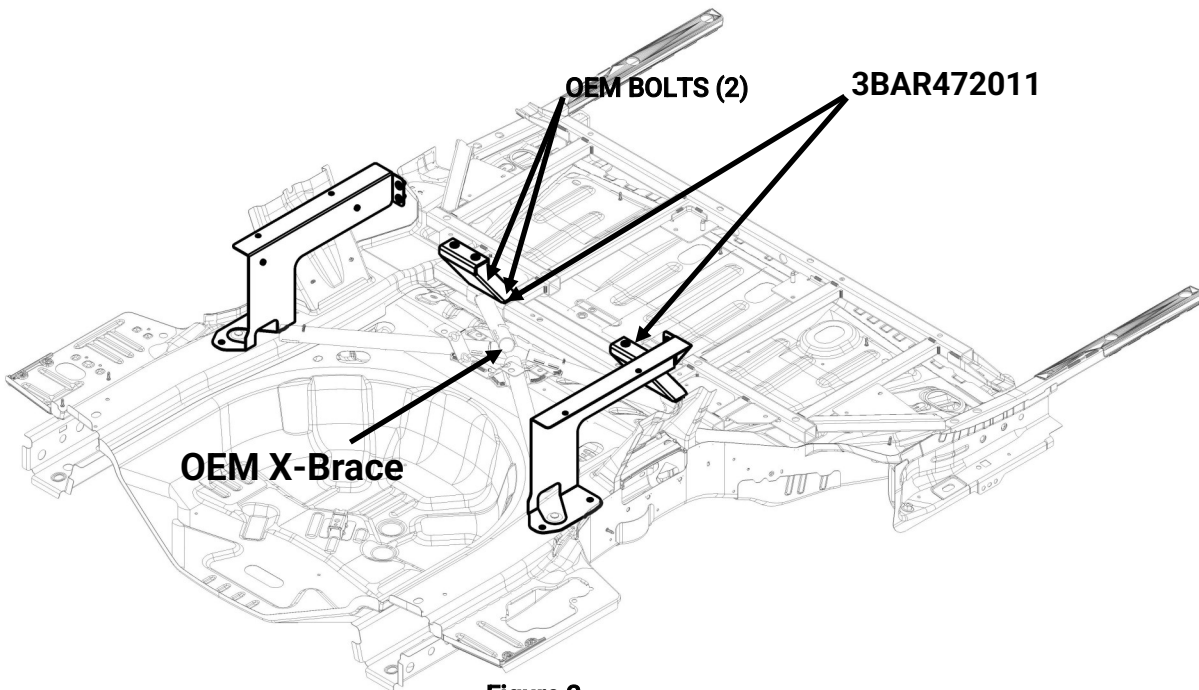

Figure 2
- A. Remove the two front driver side OEM bolts from the OEM X-brace using an 18mm socket (see Figure 2 below).
- B. Place (1) support bracket [3BAR472011] on the top of the X-brace mount points, angled towards the rear of the vehicle. Set the front edge of the bracket just behind the front edge of the X-brace mount. Reinstall the OEM bolts and torque to factory specifications.